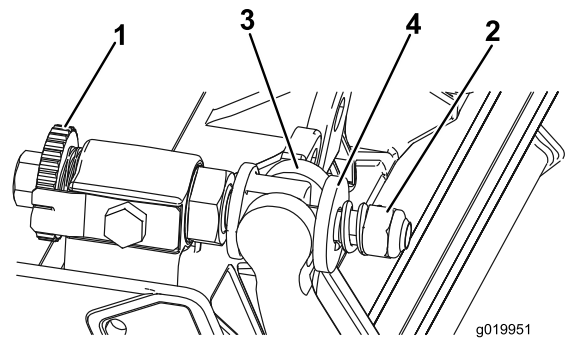

Figure 25
1. Turn bedbar adjuster screws counterclockwise to back the bedknife away from reel (Figure 25).
2. Back out the spring tension nut, until the washer is no longer tensioned against the bedbar (Figure 25).